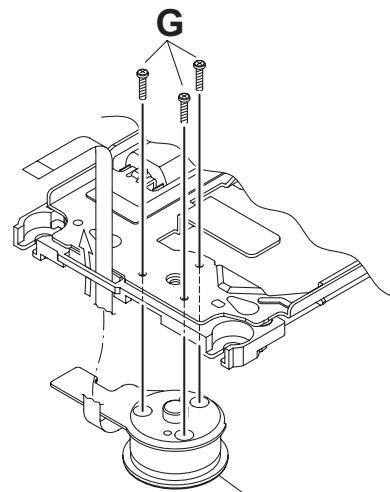

Fig.11
3.2.4 Removing the spindle motor assembly (See Fig.11)